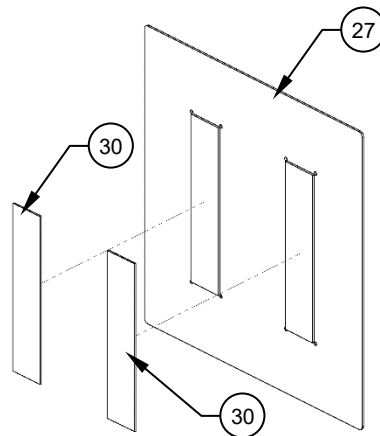

Figure 1
8. Gain access to the baggage compartment. Reference Figure 1.
10. Locate the RHS FWD Bulkhead Panel, Assy, (Item 27), so that it is centered and clears all aircraft structure on the RHS FWD bulkhead. Transfer 8x hole locations from the RHS FWD Bulkhead Panel, Assy, (Item 27), to the baggage RHS FWD Bulkhead. Reference Figure 1.